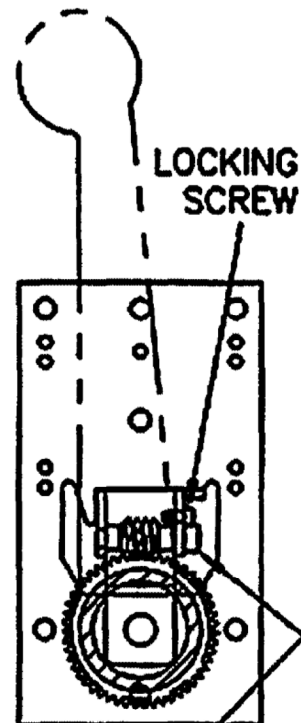

FIG. 9
11. Set the main closing force (see FIG. 9).